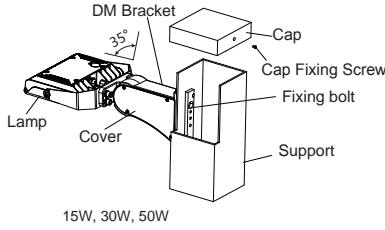

Figure 37
5. DIRECT MOUNTING (DM)(suitable for all power of this series)
Step 1: Open the side lid of direct bracket, pass the power cable through the direct bracket. Fix the direct bracket to the end of lamp body with bolt. Pass the pole cable through the direct bracket(Figure 37);